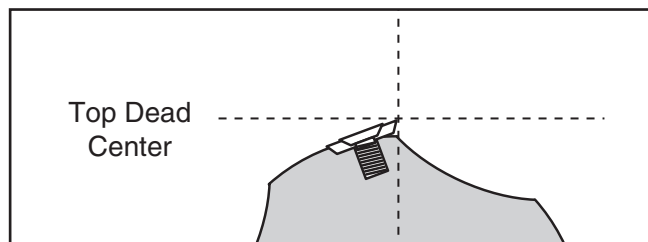

Figure 8. Cutterhead insert at top-dead-center.
19. Place a straightedge on the outfeed table so it extends over the cutterhead, and rotate the cutterhead pulley until one of the carbide inserts is at top-dead-center (TDC), as shown in **Figures 8 & 9**.